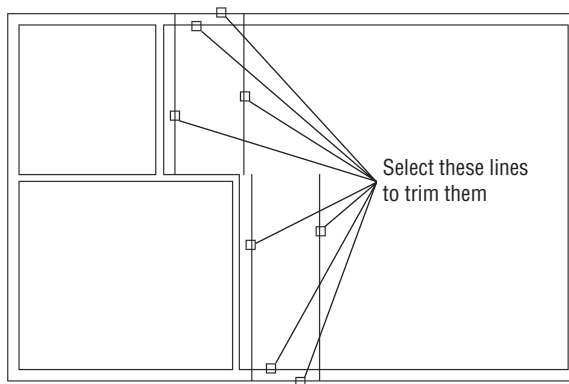

FIGURE 4.24: The lines to be trimmed
7. Pick the four wall lines between the jamb lines, and then pick the jamb lines—the lines you just extended to the outside exterior walls, as shown in Figure 4.24.